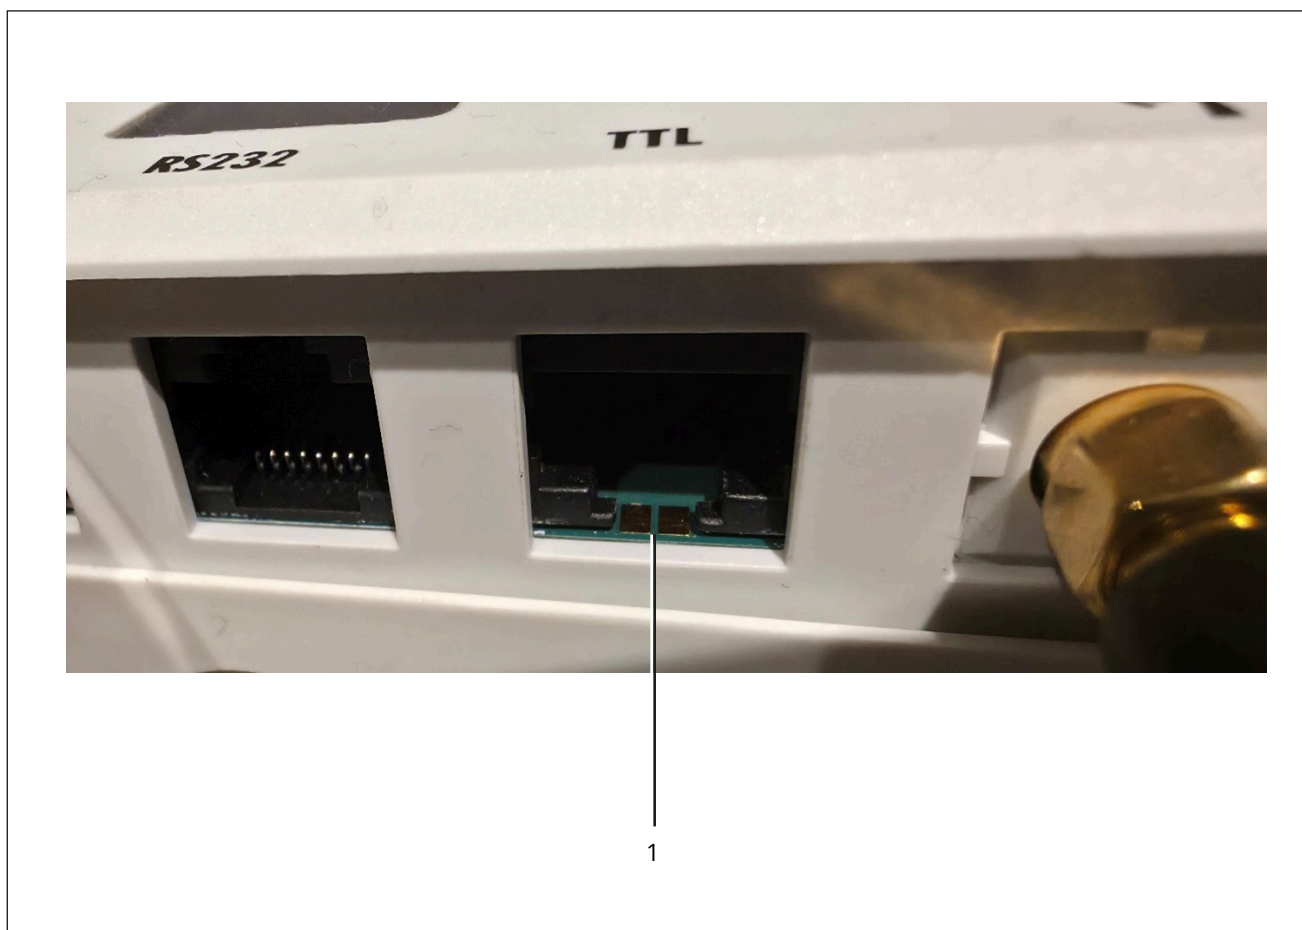

Fig. 6: Connections of the SAM Mobile+ Gateway
- Reset to default settings by jumpering two contacts (see Fig. 6)